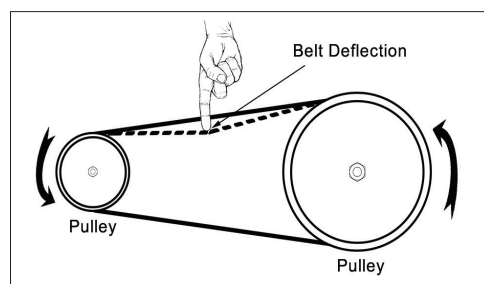

FIG. 4
6. Slide the sanding belt frame assembly to tighten the belt, so there is between 1/4" and 1/2" of deflection, as shown in FIG. 4.